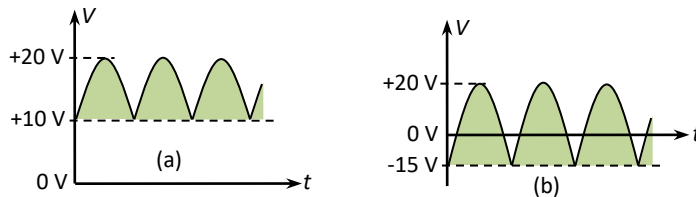

Fig.3-120: Output waveforms for Exercise 36
36. For the given waveforms of Fig.3-120, determine the RMS (V_{rms}) and average voltage (V_{dc}).